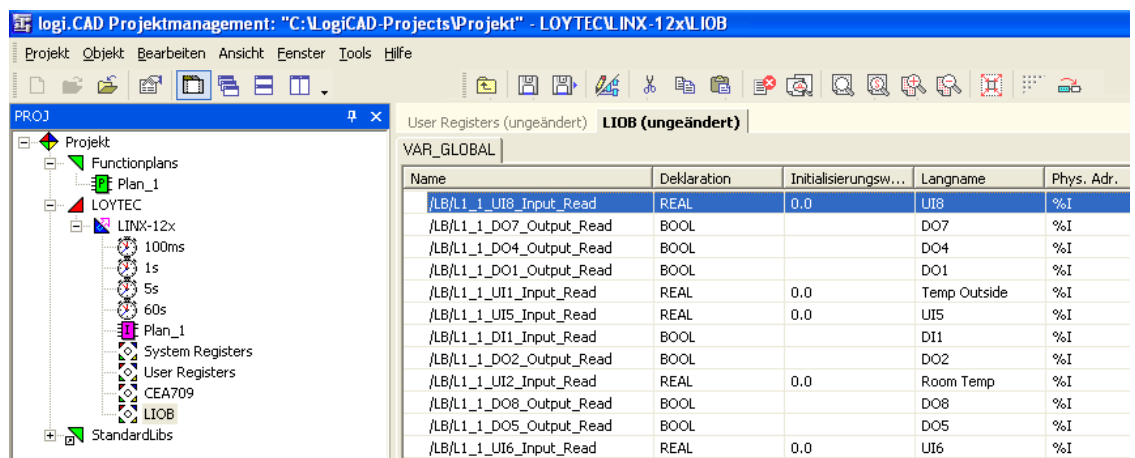

Figure 72: Exposed PLC data points appear in LogiCAD
- The data points now appear as variables in LogiCAD in a folder under the device folder. The folder is named specific to the technology of the data points, e.g. LIOB for all L-IOB I/Os that are exposed as a PLC variable. An example is shown in Figure 72.